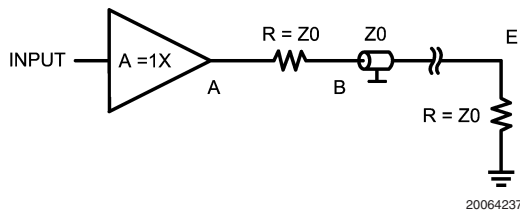
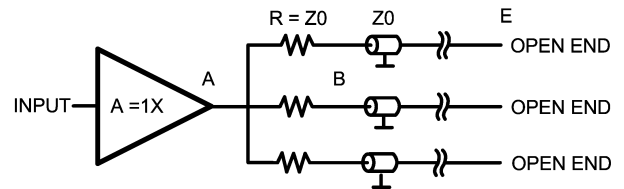
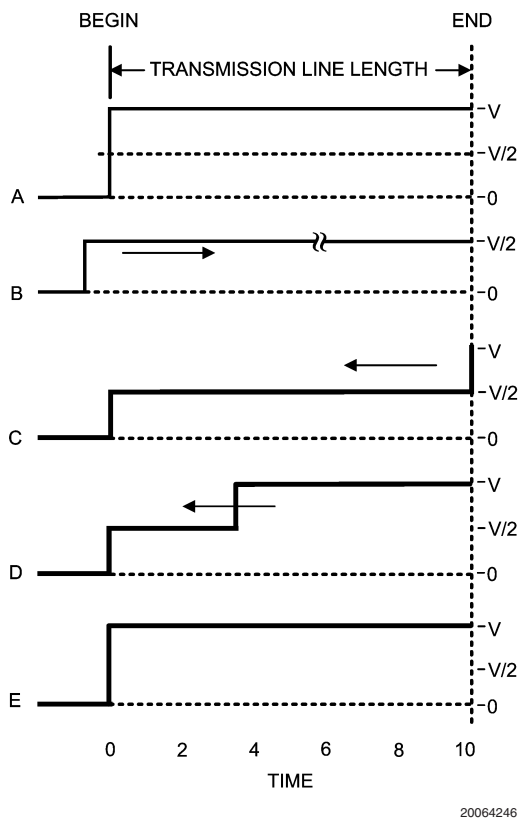

FIGURE 1.
FIGURE 3.
FIGURE 6.
- Use one buffer to drive one transmission line (see *Figure 1*)
- Use one buffer to drive several transmission lines each driving a different receiver. (see *Figure 3*)
In most cases, it is unrealistic to think that we can place a driver or buffer so close to the load that we don't need a transmission line to transport the signal. The pcb trace length between a driver and the load may affect operation depending upon the operating frequency. Sometimes it is possible to do measurements by connecting the DUT directly to the analyzer. As frequencies become higher the short lines from the DUT to the analyzer become long lines. When this happens there is a need to use transmission lines. The next point to examine is what happens when the load is connected to the transmission line. When driving a load, it is important to match the line and load impedance, otherwise reflections will occur and this phenomena will distort the signal. If a transient is applied at $T = 0$ (*Figure 6*, trace A) the resultant waveform may be observed at the start point of the transmission line. At this point (begin) on the transmission line the voltage increases to (V) and the wave front travels along the transmission line and arrives at the load at $T = 10$. At any point across along the line $I = V/Z_0$, where Z_0 is the impedance of the transmission line. For an applied transient of 2V with $Z_0 = 50\Omega$ the current from the buffer output stage is 40mA. Many vintage op amps cannot deliver this level of current because of an output current limitation of about 20mA or even less. At $T = 10$ the wave front arrives at the load. Since the load is perfectly matched to the transmission line all of the current traveling across the line will be absorbed and there will be no reflections. In this case source and load voltages are exactly the same. When the load and the transmission line have unequal values of impedance a different situation results. Remember there is another basic which says that energy cannot be lost. The power in the transmission line is $P = V^2/R$. In our example the total power is $2^2/50 = 80mW$. Assume a load of 75Ω . In that case a power of 80mW arrives at the 75Ω load and causes a voltage of the proper amplitude to maintain the incoming power.
Many applications, such as video, use a series resistance between the driver and the transmission line (see Figure 1). In this case the transmission line is terminated with the characteristic impedance at both ends of the line. See Figure 6 trace B. The voltage traveling through the transmission line
Another way to reach several points via a transmission line is to start several lines from one buffer output (see Figure 3). This is possible only if the output can deliver the needed current into the sum of all transmission lines. As can be seen in this figure there is a series termination used at the beginning of the transmission line and the end of the line has no termination. This means that only the signal at the endpoint is usable because at all other points the reflected signal will cause distortion over the line. Only at the endpoint will the measured signal be the same as at the startpoint. Referring to Figure 6 trace C, the signal at the beginning of the line has a value of $V/2$ and at $T = 0$ this voltage starts traveling towards the end of the transmission line. Once at the endpoint the line has no termination and 100% reflection will occur. At $T = 10$ the reflection causes the signal to jump to $2V$ and to start traveling back along the line to the buffer (see Figure 6 trace D). Once the wavefront reaches the series
termination resistor, provided the termination value is Z_0 , the wavefront undergoes total absorption by the termination. This is only true if the output impedance of the buffer/driver is low in comparison to the characteristic impedance Z_0 . At this moment the voltage in the whole transmission line has the nominal value of 2V (see Figure 6 trace E). If the three transmission lines each have a different length the particular point in time at which the voltage at the series termination resistor jumps to 2V is different for each case. However, this transient is not transferred to the other lines because the output of the buffer is low and this transient is highly attenuated by the combination of the termination resistor and the output impedance of the buffer. A simple calculation illustrates the point. Assume that the output impedance is 5Ω . For the frequency of interest the attenuation is $V_B/V_A=55/5=11$, where A and B are the points in Figure 3. In this case the voltage caused by the reflection is $2/11 = 0.18V$. This voltage is transferred to the remaining transmission lines in sequence and following the same rules as before this voltage is seen at the end points of those lines. The lower the output resistance the higher the decoupling between the different lines. Furthermore one can see that at the endpoint of these transmission lines there is a normal transient equal to the original transient at the beginning point. However at all other points of the transmission line there is a step voltage at different distances from the startpoint depending at what point this is measured (see trace D).